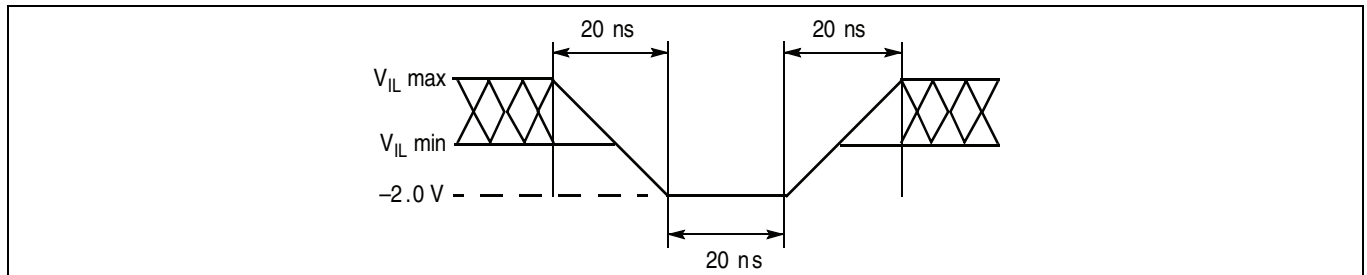
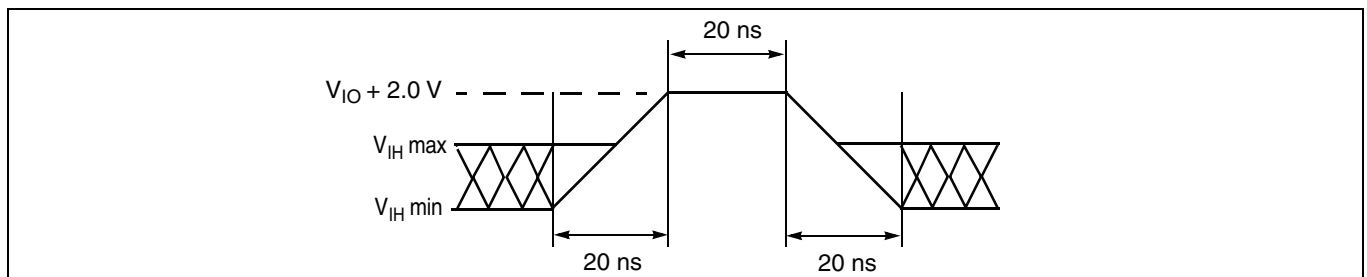

Figure 11 Maximum negative overshoot waveform
Figure 12 Maximum positive overshoot waveform
67. Minimum DC voltage on input or I/O pins is -0.5 V. During voltage transitions, input or I/O pins may undershoot V_{SS} to -2.0 V for periods of up to 20 ns. See Figure 11. Maximum DC voltage on input or I/O pins is V_{CC} + 0.5 V. During voltage transitions, input or I/O pins may overshoot to V_{CC} + 2.0 V for periods up to 20 ns. See Figure 12